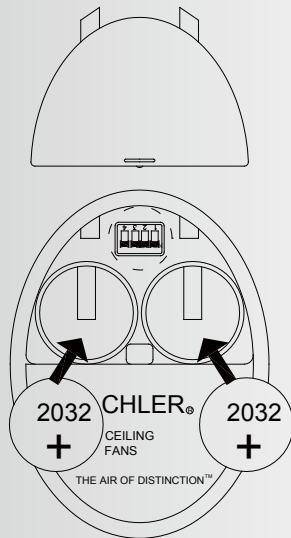

Fig. 27
Step 1. Install 2,3 volt # 2032 battery included with the CoolTouch™ Control system and make sure they are seated correctly in each recess with the Positive + Sign facing up. Replace the battery cover. . (Fig. 27)
Step 2. Test the transmitter by pushing and releasing ANY button. A Blue Light should illuminate, if not, check to make sure the batteries are inserted and seated correctly. (Fig. 27)